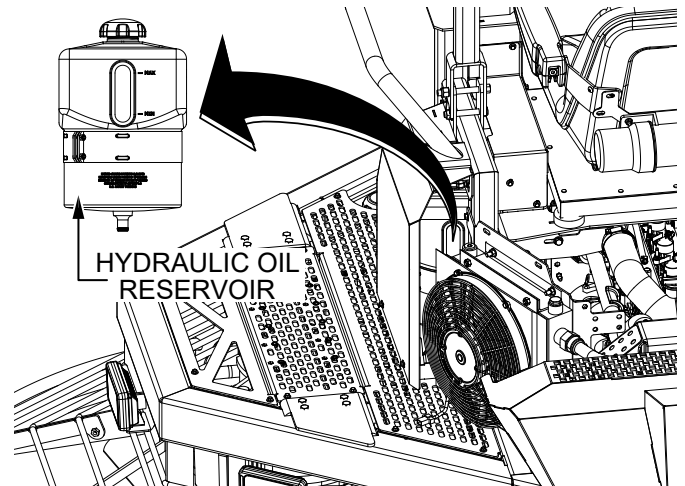

Figure 24. Hydraulic Oil Level Inspection
5. An alternative method for checking the level of hydraulic oil is to visually inspect the level through the window at the rear of the hydraulic oil reservoir (Figure 24). Hydraulic oil should be visible between the **MIN** and **MAX** lines next to the window.